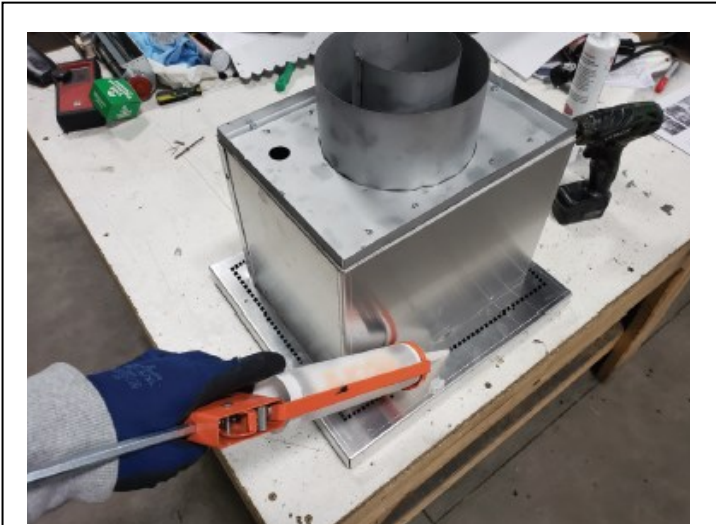
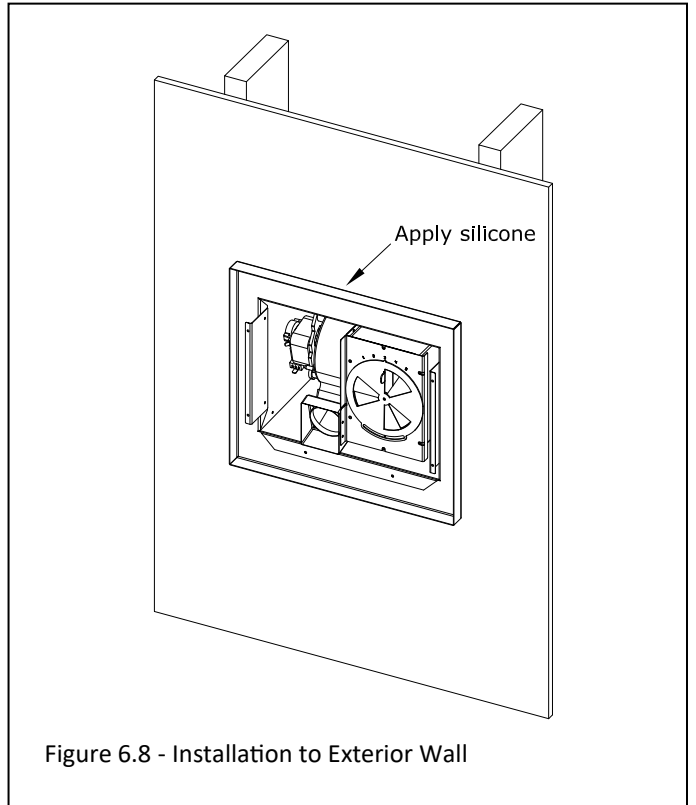

Figure 6.5 - Silicone Backside
Figure 6.8 - Installation to Exterior Wall
5. Place a bead of silicone on the backside of the power vent assembly as shown in Figure 6.5. This silicone will seal the power vent cap to the framed opening of the exterior of the building or to the Finishing Extension Kit.
6. Install the Kozy Power Vent shell into the framed opening if finishing material is 1" thick or less. Secure the assembly to the framed opening through the (8) holes shown in 6.4. Install the Kozy Power Vent to the Finishing Extension Kit using (8) threaded screws provided if the finishing material is greater than 1" thick. These (8) holes are located with (2) each side of the rubber gasket.
7. If the cap is fastened to the wall, apply a bead of silicone (with a minimum of 300°F continuous exposure rating) around the cap base where it meets the exterior wall. See Figure 6.8. If the cap is fastened to a Finishing Extension Kit apply a bead of silicone around the outside seam where the Kozy Power Vent and Finishing Extension Kit meet.